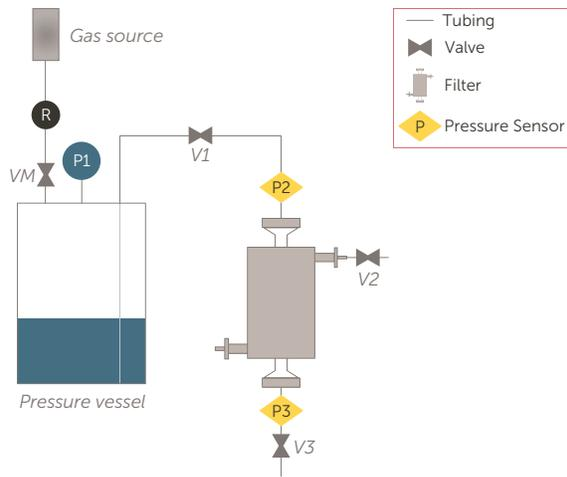

Figure 4. Example schematic of constant pressure wetting systems.
1. Ensure the system is setup in a similar format to the constant pressure system, shown in figure 4, and ensure all valves (VM, V1, V2, and V3) are closed prior to starting test.
2. Set and pressurize the system to at least 45 psig by open the main valve (VM). Ensure the pressure is set accordingly using pressure gauge (P1).
10. Fully open the outlet valve (V3), ensuring the target wetting flux rate of 420 LMH is met, and continue flush for an additional 3 – 5 mins (5 – 10 min are recommended for small size capsules below 2"). Close the inlet valve (V1) and depressurize the pressure vessel using the regulator in system. Once the upstream system is depressurized, close the main valve (VM).